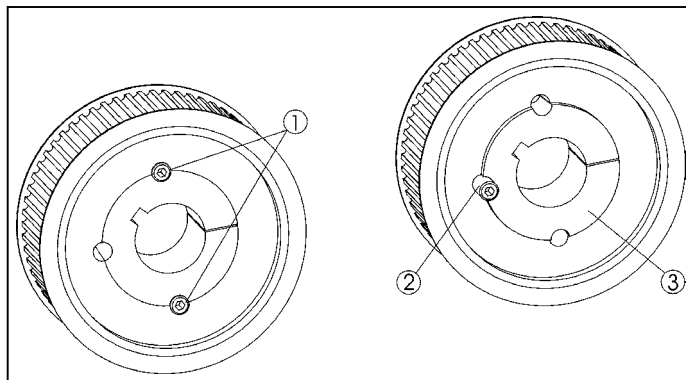

Fig. 7.7
- Demount the screws (1) in the belt pulleys. Lubricate the thread and the tip of the screw and turn it into the bore (2) as shown in fig. 7.7.
- Turn the screw until the taper lock (3) is loosely seated inside the pulley and, thus, the assembly is loose on the shaft.